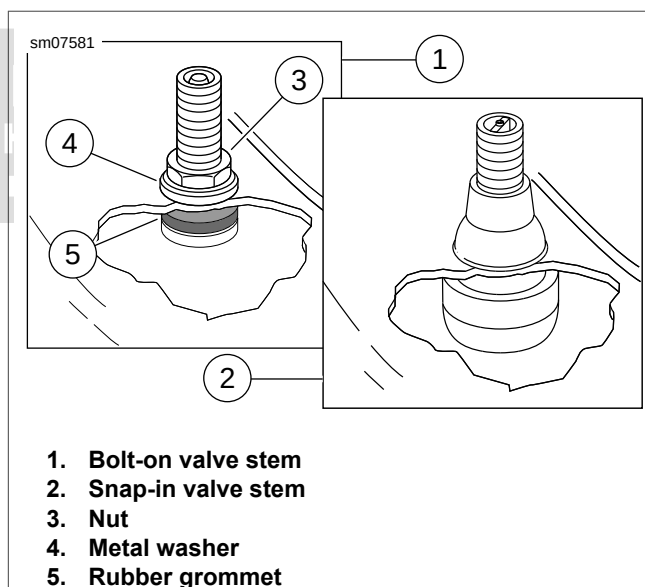

Figure 2-74. Tubeless Tire Valve Stems
1. See Figure 2-74. Replace damaged or leaking valve stems on tubeless wheels. Install rubber grommet (5) on valve stem.
3. Install metal washer (4).